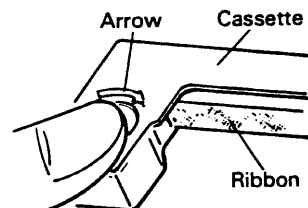

Fig. 2.3
- Before placing the cassette, turning the button at one end in the direction of the arrow until the ribbon becomes tense (Fig. 2.3).